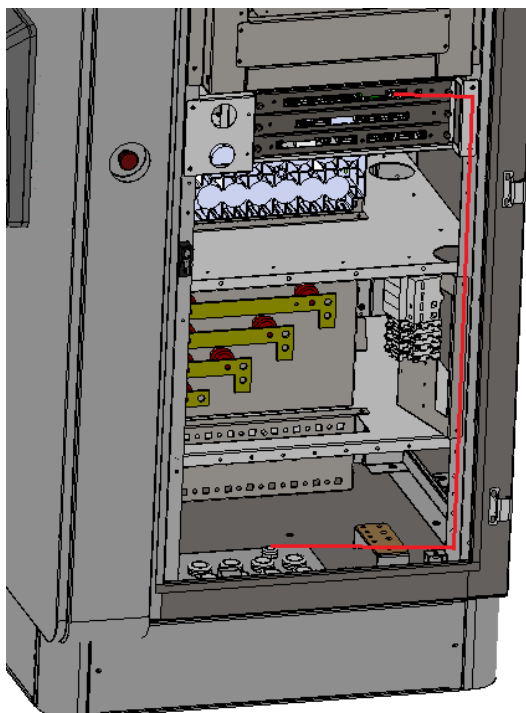

FIG.10 Network cable connection
- (3). If the Ethernet communication is required, open the right door of the equipment, make the network cable go through the bottom of the cabinet, and connect it to the Ethernet port on the mainboard. The location of the Ethernet port is shown in Figure 10.